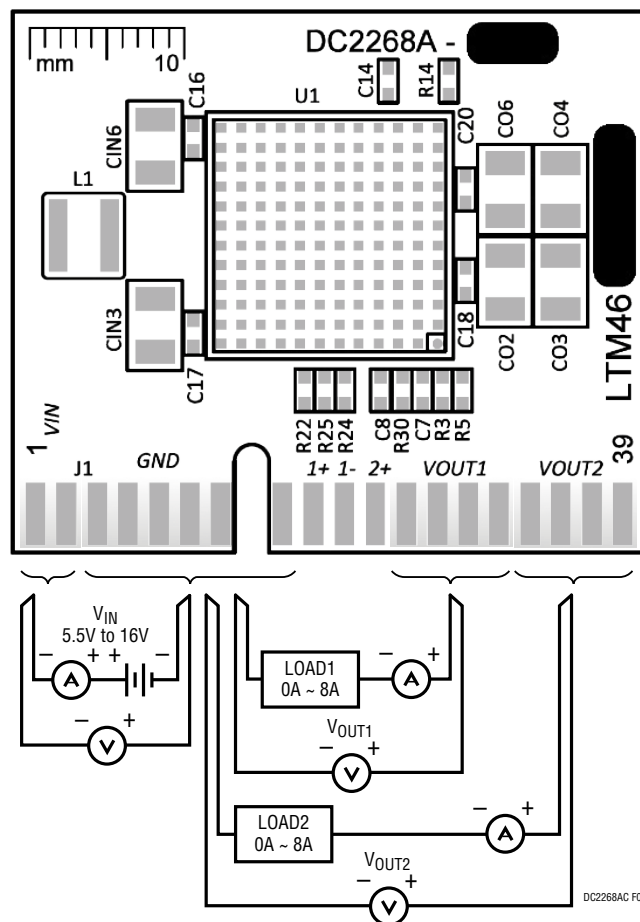

Figure 2. Test Setup of DC2268A-C
Demonstration circuit DC2268A-C is easy to set up to evaluate the performance of the LTM4628. It can be easily inserted to an edge connector (SAMTEC MEC2-20-01-L-DV--TR) for testing and debugging. Please refer to Figure 2 for proper measurement setup and follow the procedure below:
2. With power off, connect the input power supply, load and meters as shown in Figure 2. Preset the load to 0A and V_{IN} supply to 12V.